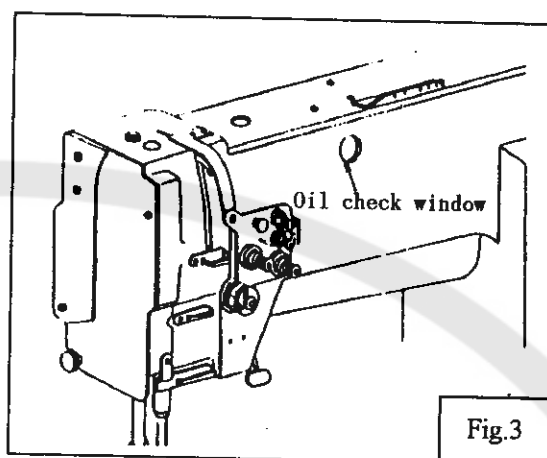

Fig.3
3. Condition of oil lubrication (Fig.3):